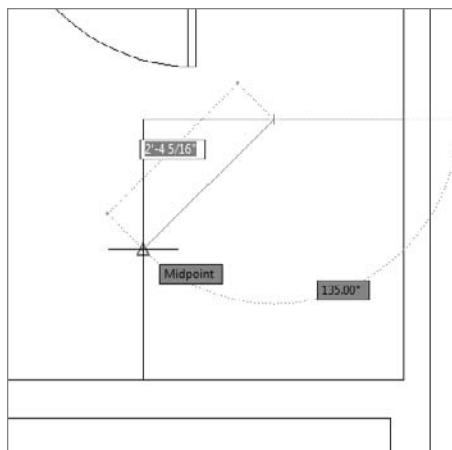

FIGURE 5.64 Using the Midpoint osnap to complete a line across the corner of the shower
6. Move the cursor near the midpoint of the left side of the rectangle until you see the triangle appear at the midpoint location (see Figure 5.64).